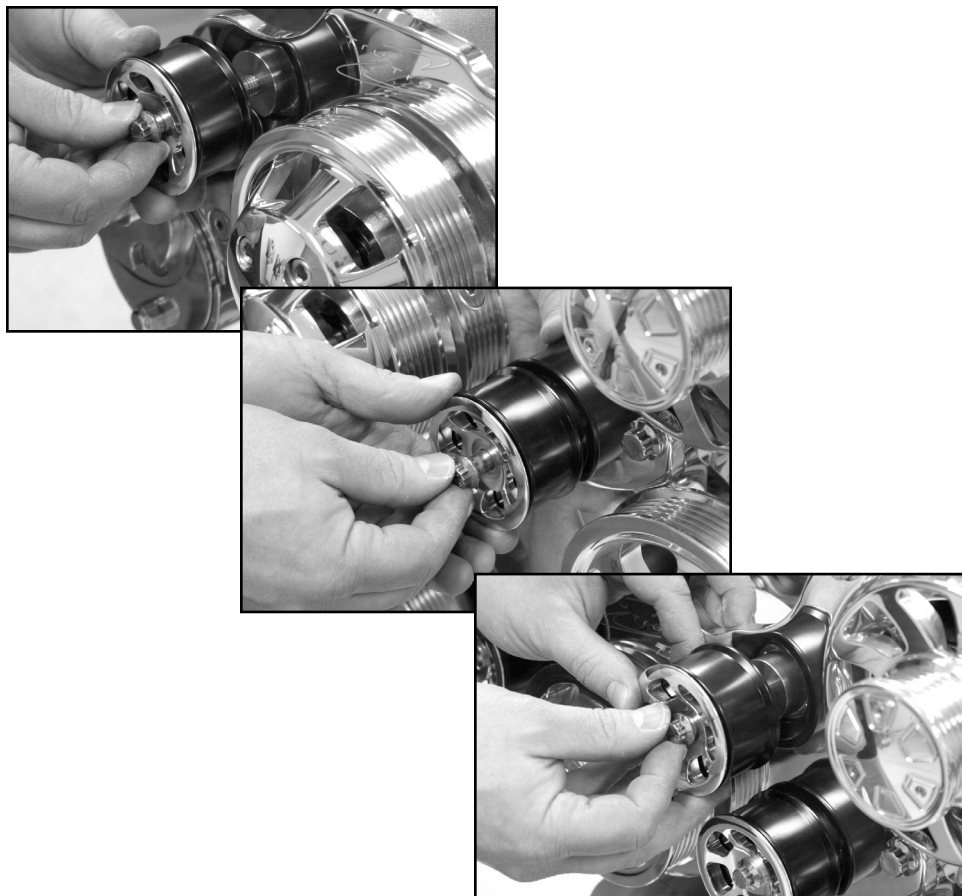

## Figure 8: Install Crankshaft & Water Pump Pulleys
*For kits without power steering continue to Figure 8.*